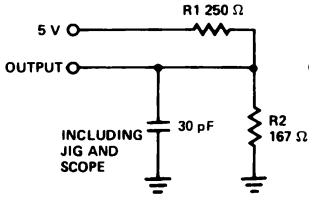

Figure 1a
6. Test conditions assume signal transition times of 5 ns or less, timing reference levels of 1.5V, output loading of the specified I_{OL}/I_{OH} and loads shown in Figure 1a, 1b.